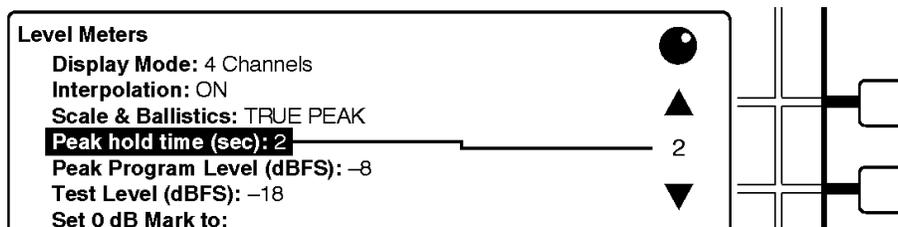

Figure 19: Soft buttons and numeric settings
- Again, use the multi-function knob to scroll the menu highlight to the parameter you wish to configure. The soft button assignments will change to reflect your choice of settings. For menu items that have numeric settings, the top two soft buttons become increment/decrement controls designated with up and down arrow icons, as represented in Figure 19.